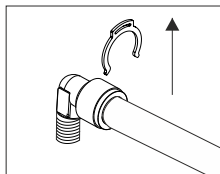

Fig. 1
- 1) Take off the protective clip from the quick-coupling (Fig. 1).